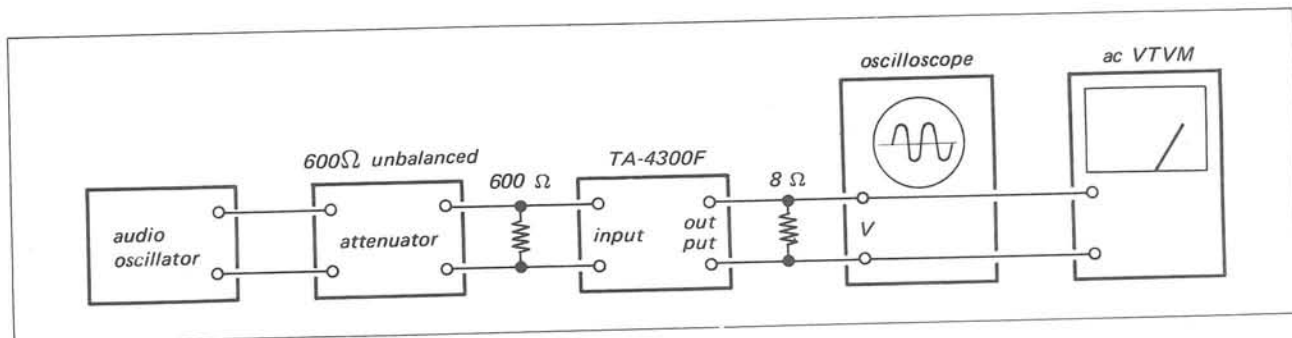

Fig. 3-1 Level check test setup
With the equipment connected as shown in Fig. 3-1, follow the procedures given in Table 3-1.
Connect the equipment as shown in Fig. 3-1. Then, set the controls and switches as follows:
1. With the equipment connected as shown in Fig. 3-1, feed a 1 kHz, 2 dB signal to the INPUT connectors.
1. With the equipment connected as shown in Fig. 3-1, adjust the LOW LEVEL control to obtain a 0 dB output signal level when supplying a 20 Hz, +2 dB signal and the BASS BOOST switch (S2) is set to 0 dB.